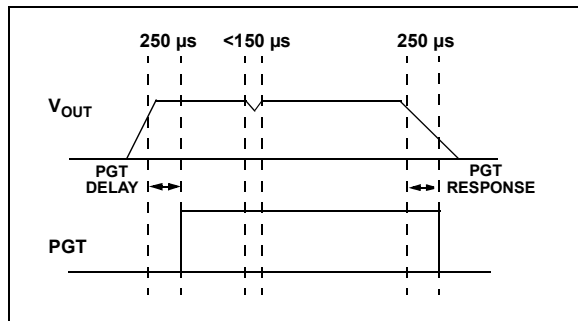

FIGURE 5-4: PGT Output Response.
- V_{OUT} is below 90% of regulated value; there is a 5% hysteresis. It resumes when V_{OUT} gets back to 95% of its nominal value. A 250 μ s delay is needed for a valid signal (see Figure 5-4).